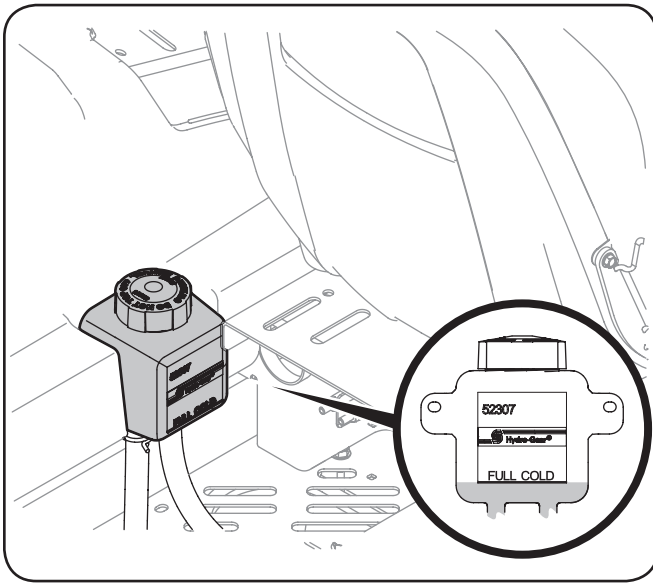

Figure 3-5
1. Pivot the operator's seat forward and clean the reservoir cap and the area around the cap to prevent debris from contaminating the transmission oil. See Figure 3-5.
2. Turn the reservoir cap counterclockwise to re-move, then check the oil level in the reservoir. Oil should be visible at the bottom of the cup, but the oil level must NOT be above the "FULL COLD" line. See Figure 3-5. DO NOT FILL THE RESERVOIR.